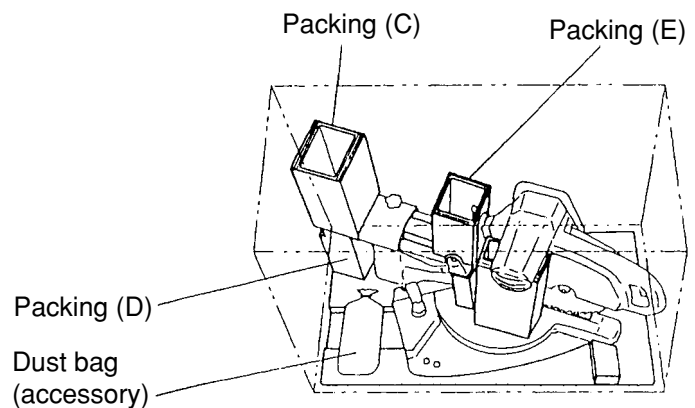

Fig. 57
(5) How to install packings (C) and (E)
Place packing (C) on packing (D) to sandwich the slide pipe. Insert packing (E) in the dust bag mounting portion at the head section. Place the dust bag (accessory) in front of packing (D). (See Fig. 57.)